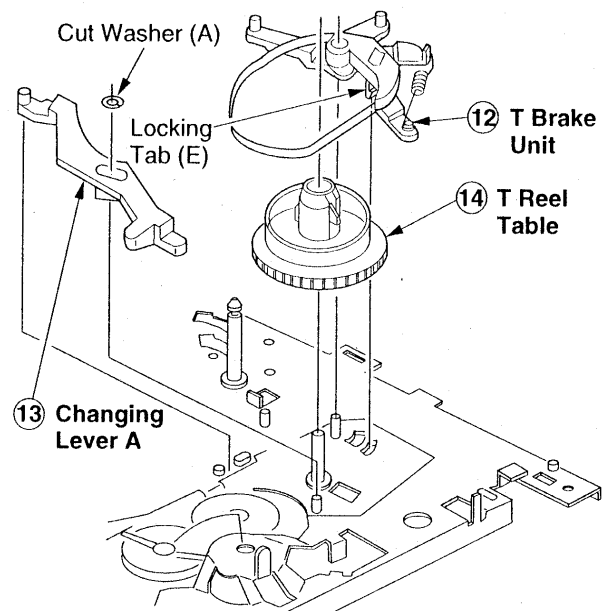

Fig. 12 - T-Brake/Change Lever (A)/T-Reel Table Removal
T-Brake/Change Lever (A)/T-Reel Table Removal (Figs. 12, 13)
1. Release one (1) tab (E) located under the chassis and remove the T-brake.
2. Remove one (1) cut washer (A) and then pull up on the change lever (A) to remove it.